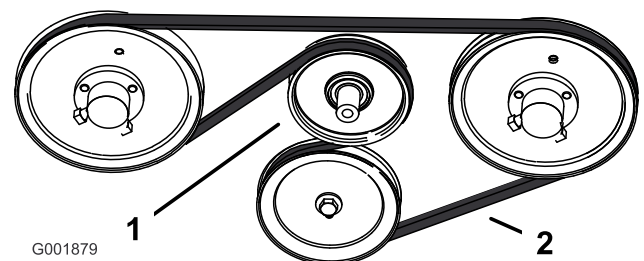

Figure 69
3. To replace the belt, pull the spring loaded idler down and remove the traction belt from the engine and hydro pump pulleys (Figure 69). Remove the belt between the pulleys.
4. Install the new belt around the engine and hydro pump pulleys (Figure 69).
5. Pull the spring loaded idler down and align it below the traction belt. Release the pressure on the spring loaded idler (Figure 69).